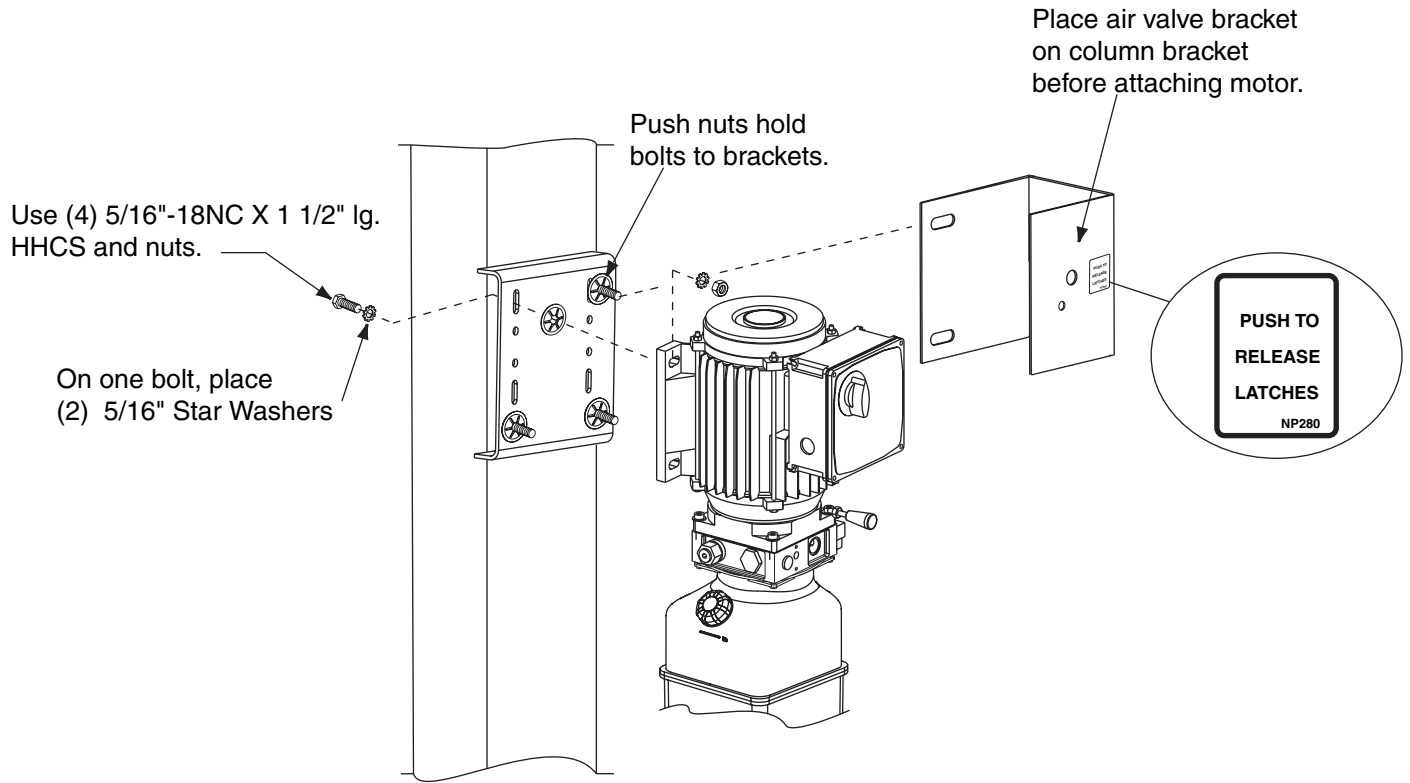

Fig. 16
- Align Air Valve Bracket with holes in right side of column bracket, Fig. 16.
- C. Attach enclosed NP280 decal ("PUSH TO RELEASE LATCHES") below button on air valve bracket, Fig. 16.